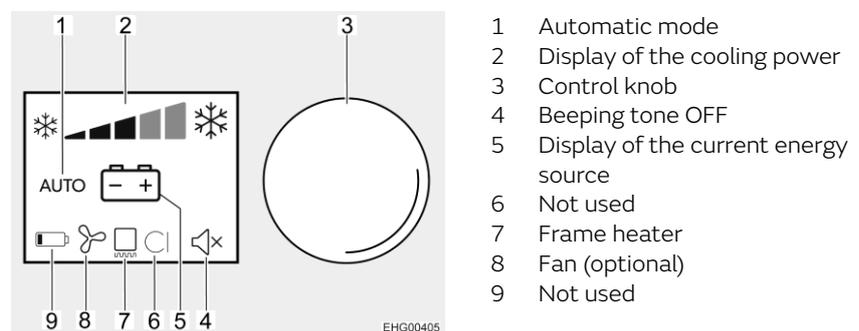

Fig. 148 Display
The operating modes and settings are shown on a display (Fig. 148) between the refrigerator and freezer compartment.
When turned on the first time the refrigerator automatically selects the middle thermostat position. This setting can be adjusted manually via the control knob (Fig. 148,3). The bars (Fig. 148,2) indicate the selected thermostat position. It takes a few hours till the refrigerator reaches its normal operating temperature. When changing over the operating mode the thermostat setting will be maintained. The refrigerating temperature is retained regardless of the type of energy being used.
High external temperatures and high humidity can cause drops of water to form on the metal frame of the freezer compartment. This is why the refrigerator is equipped with a frame heater for the freezer compartment. If the temperature and humidity are high, switch on the frame heater. This prevents corrosion. If the frame heater is switched on, the frame heater symbol (Fig. 148,7) is lit.
- Turn control knob (Fig. 148,3) until the bottom line (adjustment menu) is active.
- Press and hold the control knob (Fig. 148,3) for about 2 seconds. The refrigerator switches on with the settings selected most recently.
- Press and hold the control knob (Fig. 148,3) for about 4 seconds. The refrigerator switches off and no displays are lit.